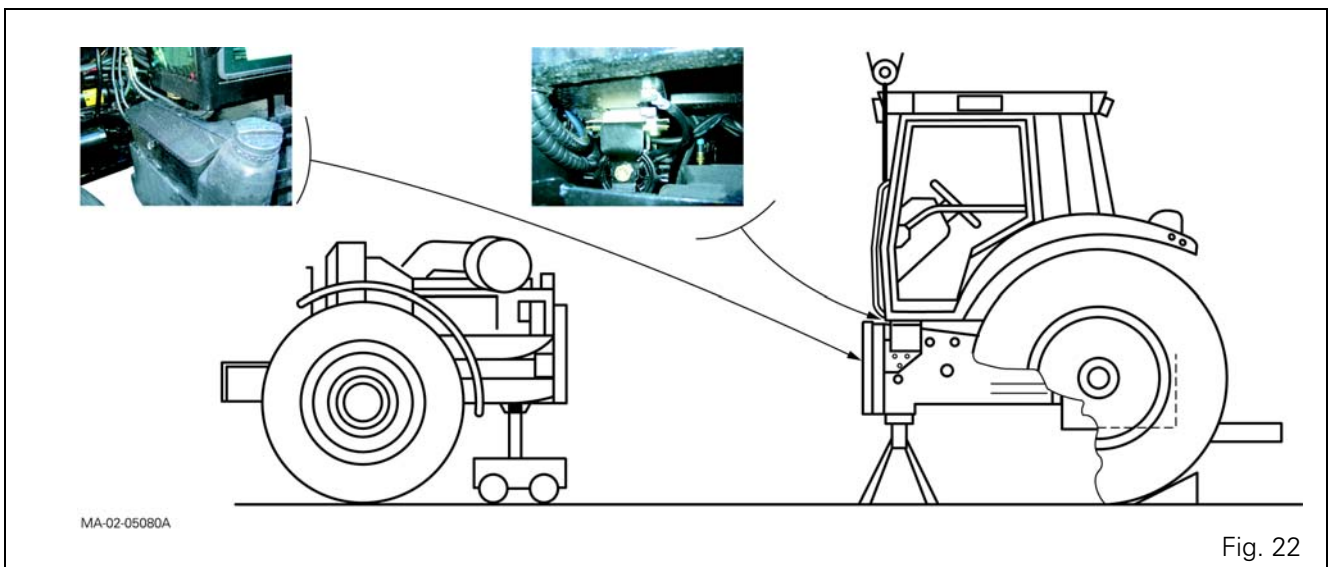

Fig. 22
48. Install (Fig. 22):
51. Assisted by an operator, separate the assemblies (Fig. 22).